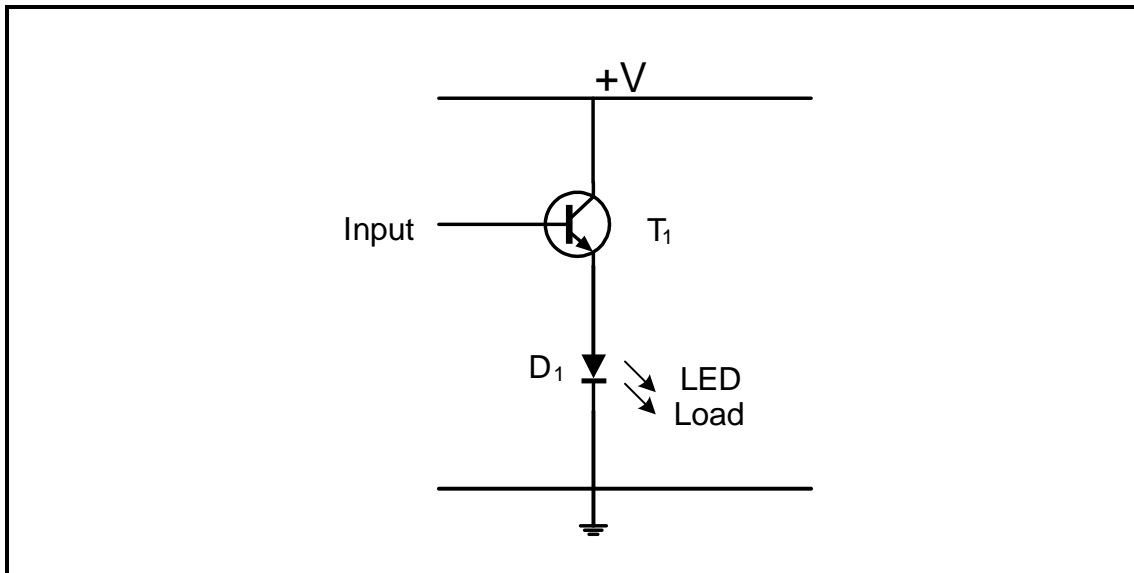

FIGURE 4.2
- 4.2 Identify the circuit in FIGURE 4.2 below with reference to digital outputs. (1)